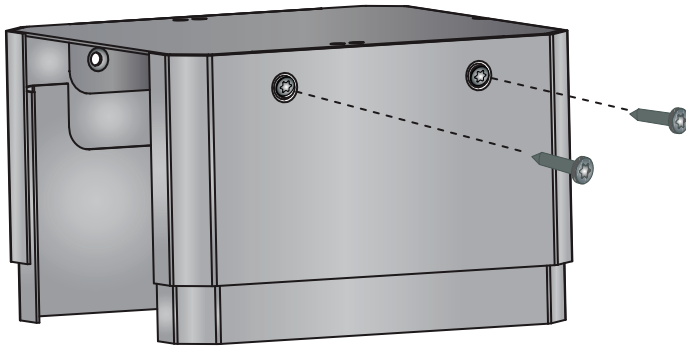

Figure 30: Leg Cover Mounting Holes
- Remove the screws securing the leg covers (see *Figure 30: "Leg Cover Mounting Holes"*). Dismount the leg covers from the extruded dimples.
- Mount the Toe Kick Panel on both sides of the unit into the extruded dimples using the (4) T-20 Torx drill point screws provided.